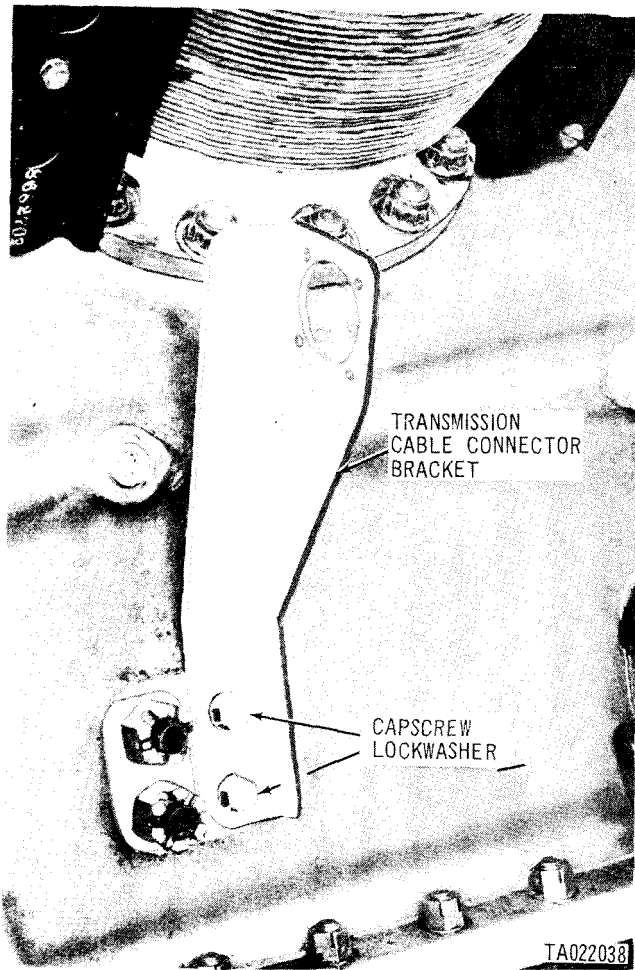

Figure 3-95. Removing or installing transmission cable connector bracket, model AVDS-1790-2C and AVDS-1790-2D engines.
b. Remove two capscrews and lockwasher (fig. 3-95) and remove transmission cable connector bracket.